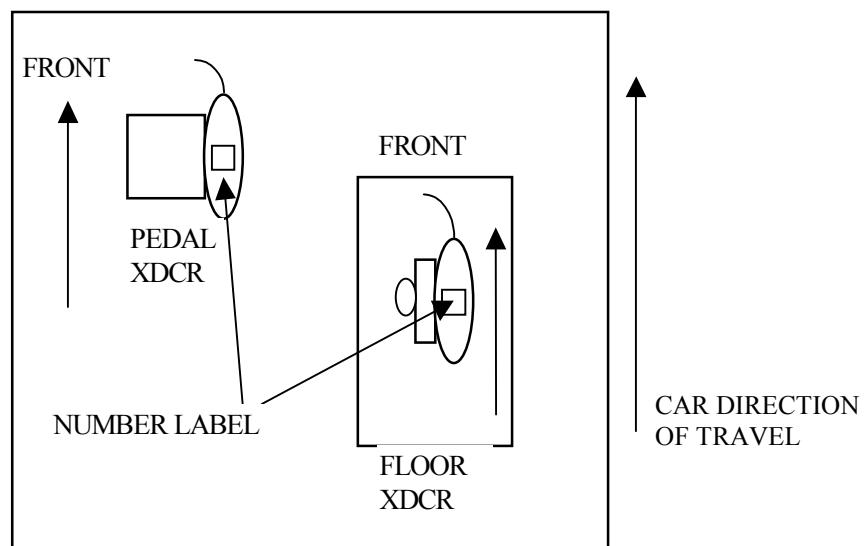

Figure 1
2. Place the Floor transducer on a stable area of the car with the front line marking facing toward the front of the car. Align the transducer so that the axis of the transducer is exactly parallel to the centerline of the car. See figure 1. Rotate the transducer so that the number label faces up.